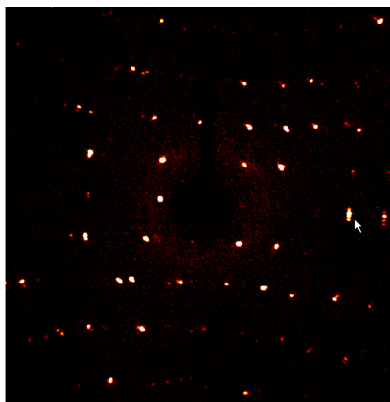

Figure 5.25 - A 2° phi scan on a poor quality crystal at plus 90 in phi. The spot shape is poor and the spots are very close together.
9. Click “Drive + Scan”. The resulting 2-degree scan is shown in Figure 5.21. This image is measured 90 degrees from the previous one giving a view of the diffraction pattern from a different (perpendicular) direction. Figure 5.25 gives a similar view for the poor crystal.